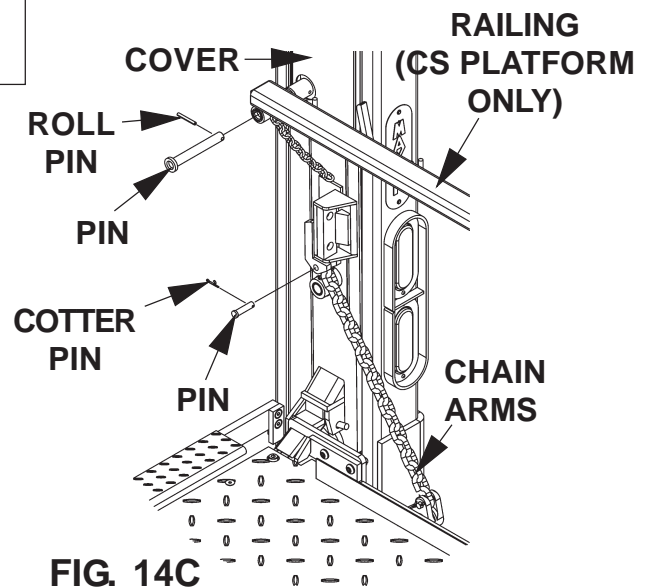

FIG. 14C
24. Bolt on Runner Cover (**FIG. 14C**). Use Pin and Cotter Pin to re-attach Chain Arm Assembly to Runner (**FIG. 14C**). If Liftgate is equipped with CS Platform, use Pin and Roll Pin to re-attach Railing to Runner (**FIG. 14C**).